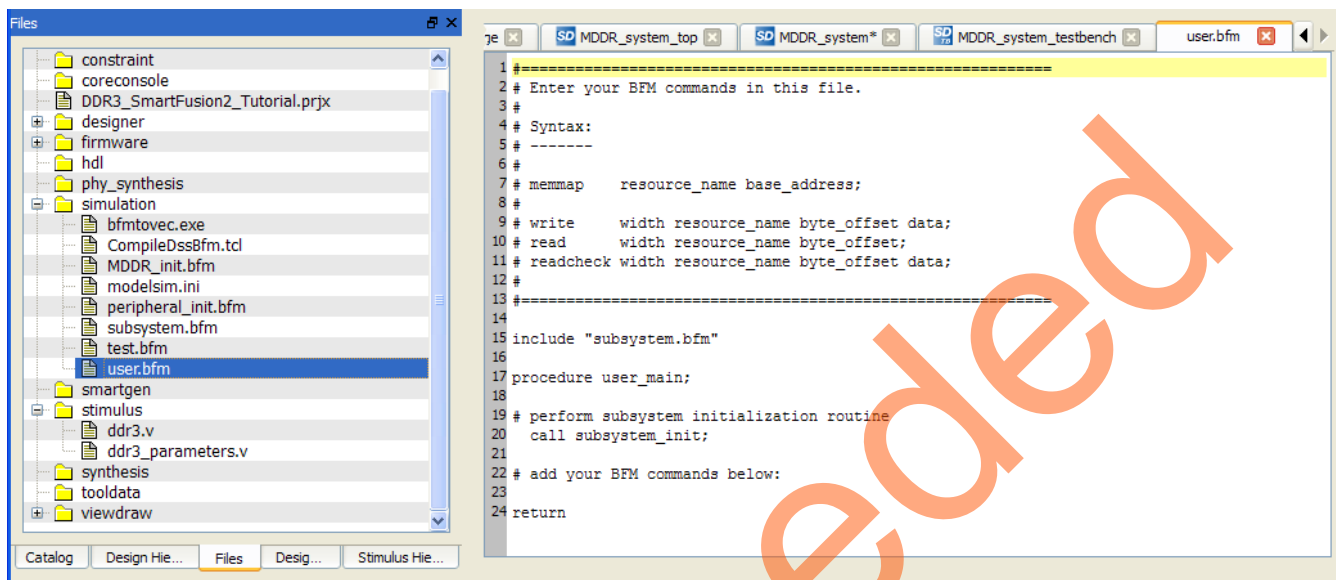

Figure 29. SmartDesign Generated user.bfm File
1. Open the user.bfm file. To open the user.bfm, go to the **Files tab > Simulation** folder, double-click the user.bfm. The user.bfm file will open, as shown in Figure 29.